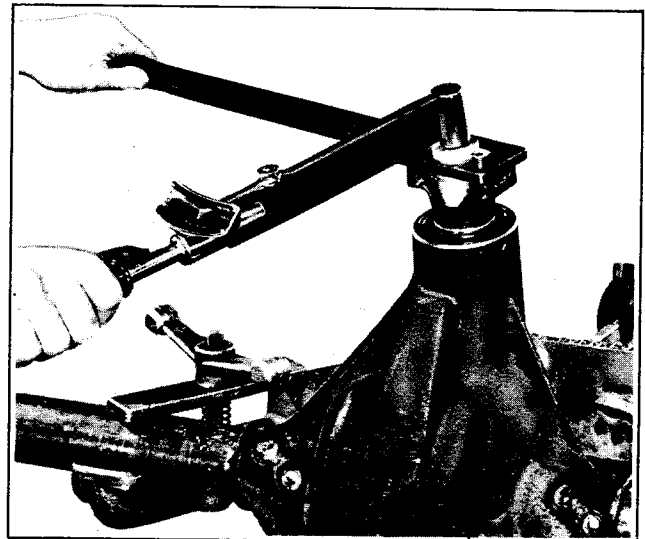

Figure 2B-28. Tightening Nuts with Torque Wrench and Socket
16. Install oil slinger (27), gasket (29), and seal (28).
17. Install end yoke (23), washer (21), retainer (21A), cotter pin (20A), and nut (20). Finish tightening nut with torque wrench and socket to 50 to 70 ft-lbs. See Figure 2B-28. Where applicable, bend one side of retainer (21A) against flat on nut (20).
19. Place drive gear and differential case assembly, bearing cups included, in carrier. Place bearing caps (6) in their respective positions, align identification marks, with screws (5) finger tight.
20. Move drive gear into drive pinion and, from shim requirements as determined in Step 9, place shims (12) between cup and carrier as shown in Figure 2B-29. Force shims in both sides so as to use total required and have gear rotate with no backlash.